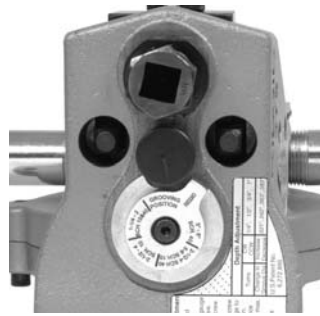

Figure 10B – Gauge In Grooving Position
- Turn the adjusting screw clockwise until the head touches the step of the depth gauge. Turn the groove depth gauge to the grooving position (Figure 10B). If the gauge is not in the grooving position it will prevent grooving and may be damaged.
2. Make sure the groove depth gauge is in the grooving position. (*Figure 10B*)